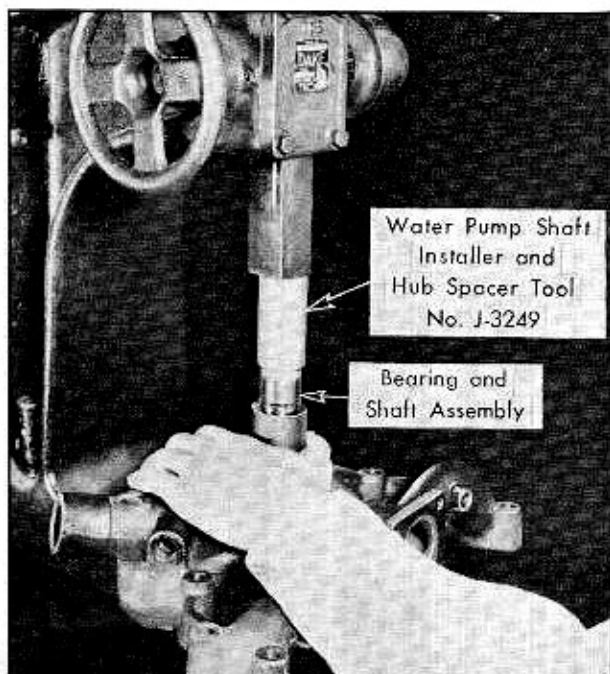

Fig. 13-7 Pressing Bearing and Shaft Into Pump Housing
1. If bearing, shaft, and slinger assembly has been removed, replace by pressing new assembly into body, using Water Pump Shaft Installer and Hub Spacer, Tool No. J-3249, as shown in Fig. 13-7.